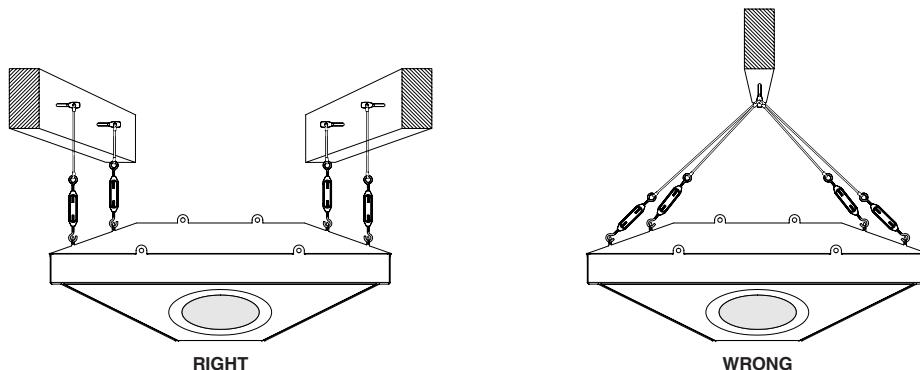

Figure 4 – Ceiling Enclosure Mounting Requirements
- Determine the best location for the four anchor bolts above the drop ceiling. The anchor bolts should be located roughly above the associated mounting lugs on the Ceiling Enclosure and spaced to ensure proper weight distribution. See *Figure 4 – Ceiling Enclosure Mounting Requirements*.